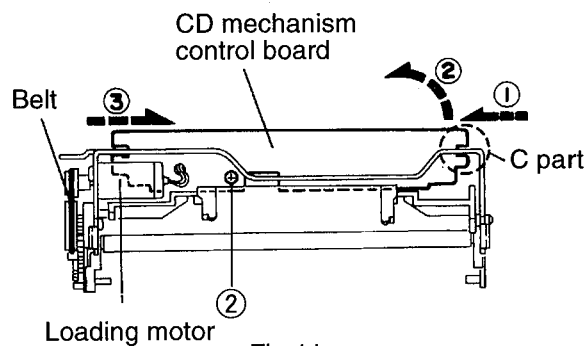

Fig.11
- 4.Remove the one screw ③ retaining the CD mechanism control P.C.board(See Fig. 11).
5. After disengaging the engagement between the notch section ④ and frame,remove the CD mechanism Control P.C .board successively from ① through to ③ in the arrow direction as shown in Fig. 11.